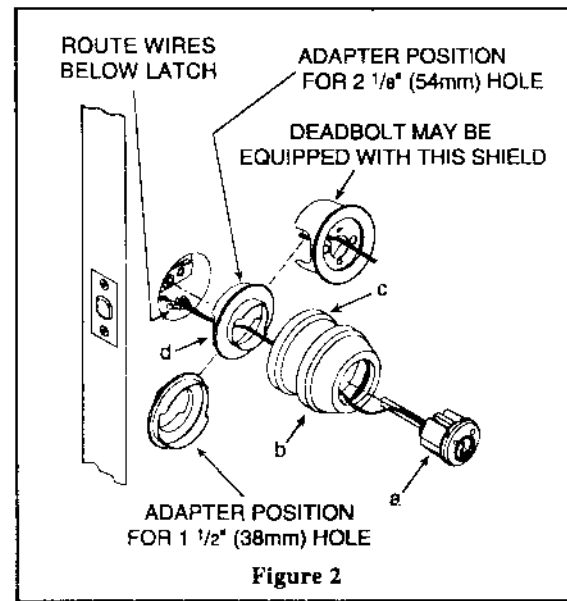

Figure 2
3. Assemble the exterior (key operated) deadbolt components consisting of cylinder assembly (a), cylinder guard cover (b), cylinder guard (c) and adapter (d), as shown in Figure 2 on next page. The adapter (d) can be reversed to accommodate either a 1-1/2" or a 2-1/8" mounting hole. (Some units may be provided with a shield instead of the adapter.)
4. Make sure that the black and red wires protrude through the center of the adapter plate as shown in Figure 2. (If a shield has been provided, the wires should be routed through the slotted hole as shown.)
NOTE: Make sure that wires are routed through opening in door below the latch assembly as shown in Figure 2.